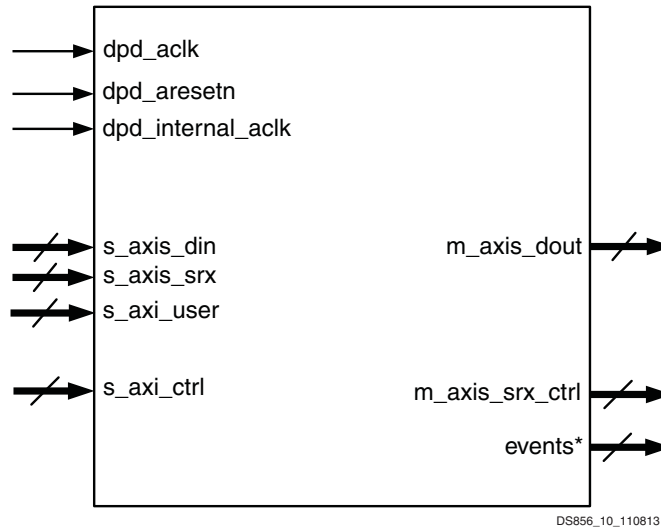

Figure 2-1: DPD IP Symbol (Input/Output Ports)
Figure 2-1 displays the signal names of the DPD HW component. Table 2-5 defines these signals. The AXI4-Stream interfaces are parameterized by the number of transmit antennas (TX) and the number of phases (NUM_PHASES). For two phases, two samples per antenna path are input and output from the core on each clock cycle. For one phase, one sample per antenna path is input and output from the core on each clock cycle.